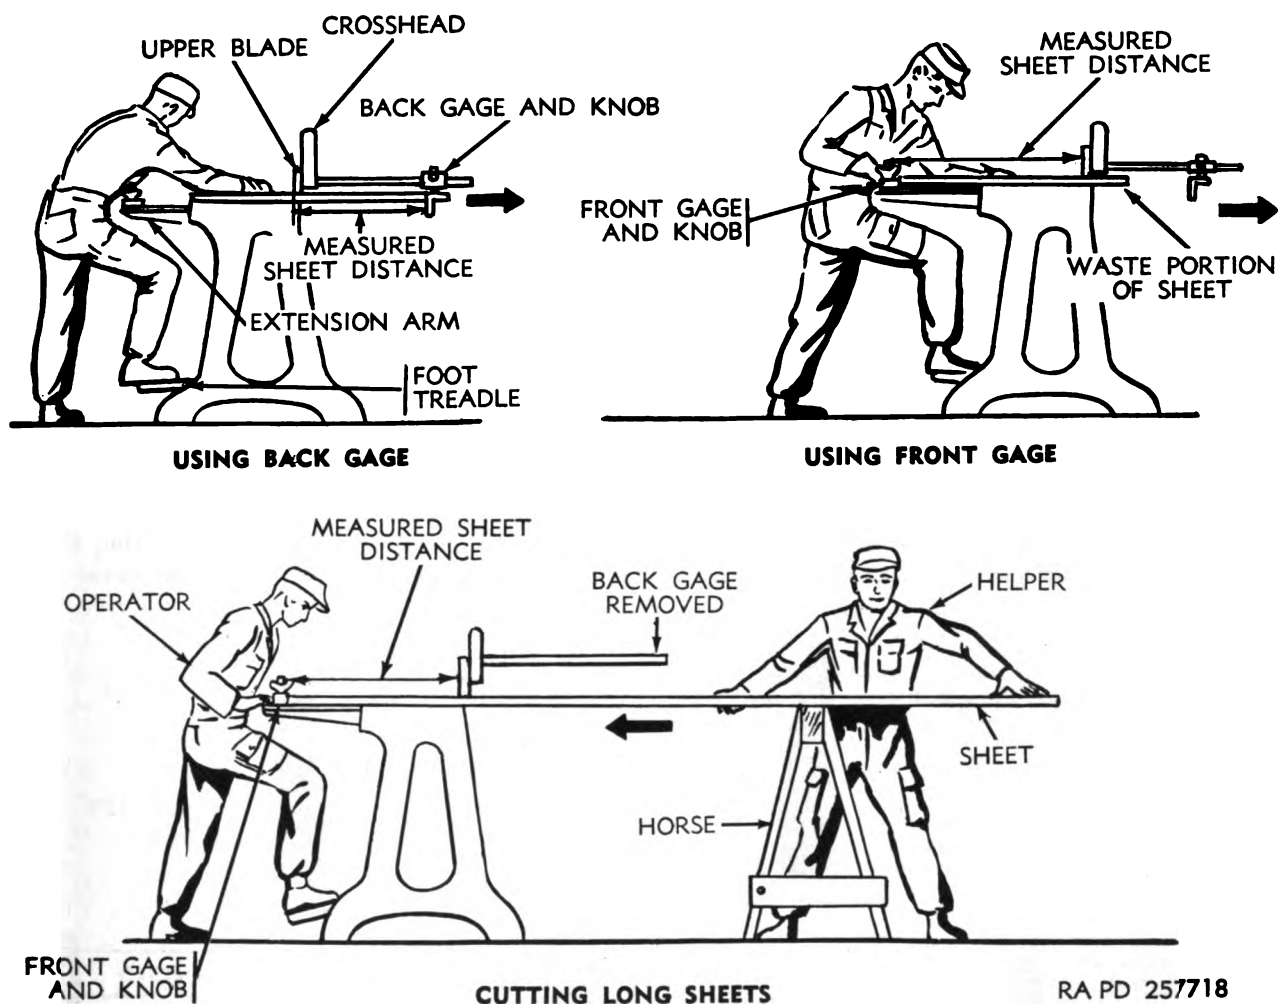

Figure 248. Using metal shearing machine.
c. Metal Shearing Machine. To cut sheet metal with the metal shearing machine, first set the front gage or back gage by measuring the required distance from the face of the gage to the edge of the bottom blade (fig. 248). Tighten the gage clamping knobs. Measuring the gage position will result in more accurate work than the use of the graduated scale on the table bed. Insert the sheet under the cutting blade from the front (foot treadle side), push the sheet against the set gage, and hold the sheet in position. Keep hands and other parts of the body clear of the cutting blades. Operate the cutter by stepping on the foot treadle. When cutting long sheets, set the front gage and have a helper insert the sheet from the rear, as shown in figure 248. Support long sheets near the cutting line by a table or other similar means of support. The holddown on the machine operates with the stroke of the upper blade. Before the upper blade touches the metal, the holddown presses down on the sheet. If the holddown is not used or is not operating correctly, the metal will bind on the shears and cause an inaccurate cut. Never use shears on metals of a gage heavier than their rated capacity. Cutting heavier metals will dull or bend the upper blade beyond repair.